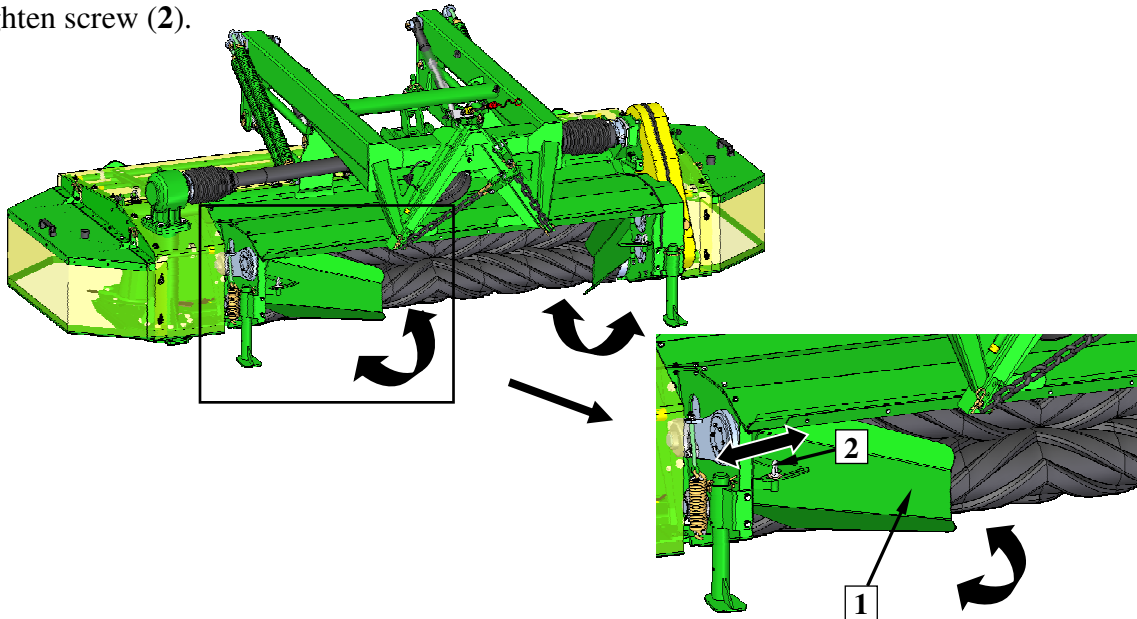

Fig. 22. Adjustment of swath guides: 1- swath guide, 2 - adjustment screw
In order to set swath width, adjustment of swath guides (1) should be performed (Fig. 22) (for: KDF W):
- ❑ loosen eye screw (2) of the swath guide,
- ❑ set the swath guide (1) as needed,
- ❑ tighten screw (2).